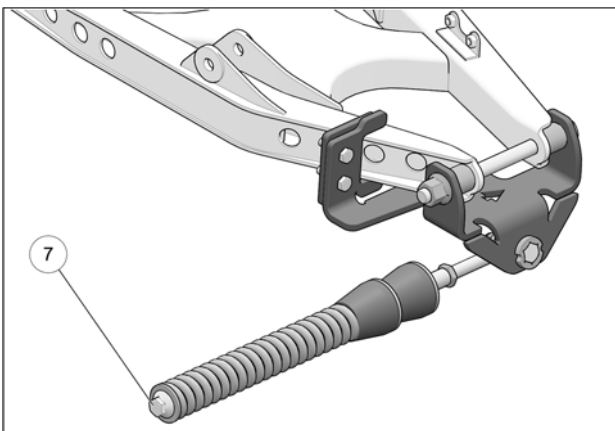

Fig. 17
18. Verify that spring assembly bolt (7) is tightened to the recommended torque specification: 75 N•m [55 lb•ft]. Refer to Fig. 17